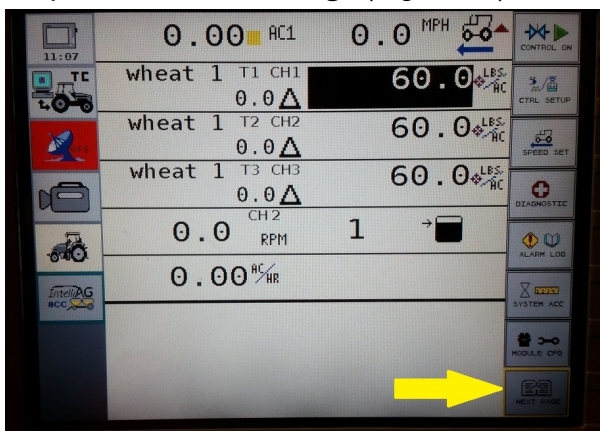

Figure 38
Step 13. Select **Next Page** (Figure 38)